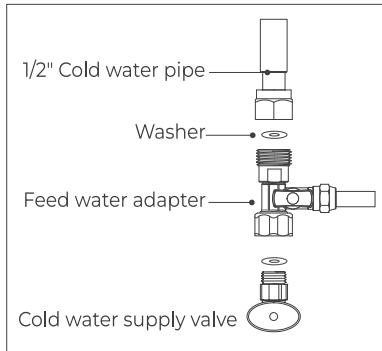

Figure 5
3. Twist the feed water adapter onto the cold water supply valve (with its washer) and tighten it with an adjustable wrench(**Figure 5**).